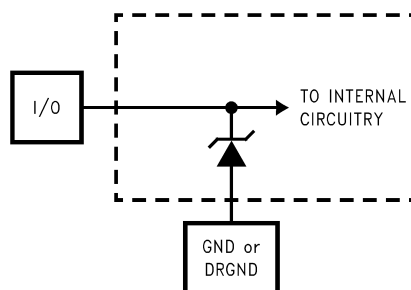

Figure 2.
- The inputs are protected as shown below. Input voltages above V_A or below GND will not damage this device, provided current is limited per Note 4 under the Absolute Maximum Ratings Table. However, errors in the A/D conversion can occur if the input goes above V_A or below GND by more than 100 mV. As an example, if V_A is 3.3V, the full-scale input voltage must be $\leq 3.4V$ to ensure accurate conversions. See Figure 2
- (1) The inputs are protected as shown below. Input voltages above V_A or below GND will not damage this device, provided current is limited per Note 4 under the Absolute Maximum Ratings Table. However, errors in the A/D conversion can occur if the input goes above V_A or below GND by more than 100 mV. As an example, if V_A is 3.3V, the full-scale input voltage must be $\leq 3.4V$ to ensure accurate conversions. See Figure 2
- (2) To ensure accuracy, it is required that $|V_A - V_D| \leq 100$ mV and separate bypass capacitors are used at each power supply pin.
- (3) With the test condition for $V_{REF} = +1.0V$ (2V_{P-P} differential input), the 12-bit LSB is 488 μV .
- (4) Timing specifications are tested at TTL logic levels, $V_{IL} = 0.4V$ for a falling edge and $V_{IH} = 2.4V$ for a rising edge.
- (5) Typical figures are at $T_A = T_J = 25^\circ C$, and represent most likely parametric norms. Test limits are specified to TI's AOQL (Average Outgoing Quality Level).